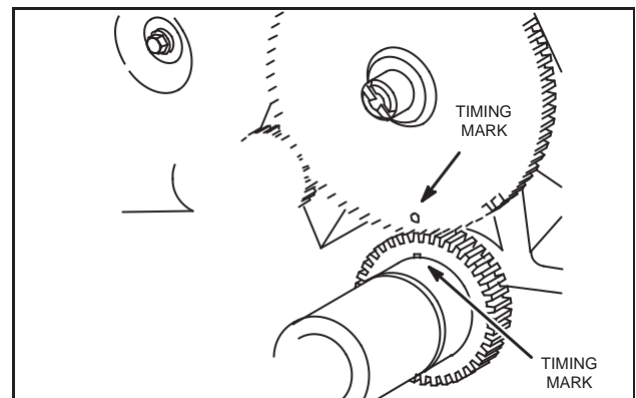

Fig. 5 - Installing Camshaft
2. Align timing marks on cam shaft and crankshaft gear and install cam shaft, Fig. 5.